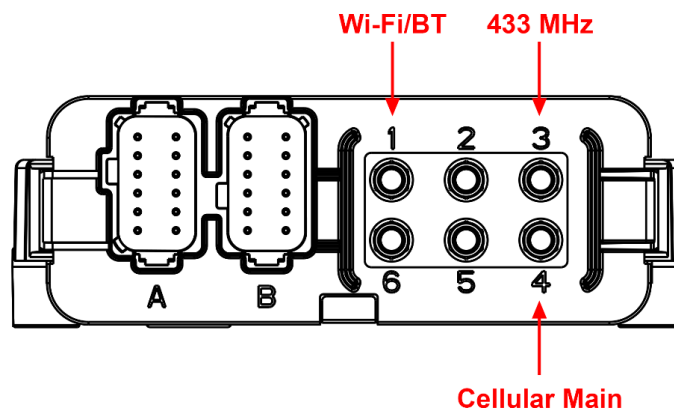

Figure 14: Gateway connectors
3. Connect the antenna cables to the gateway using the diagram in Figure 14.